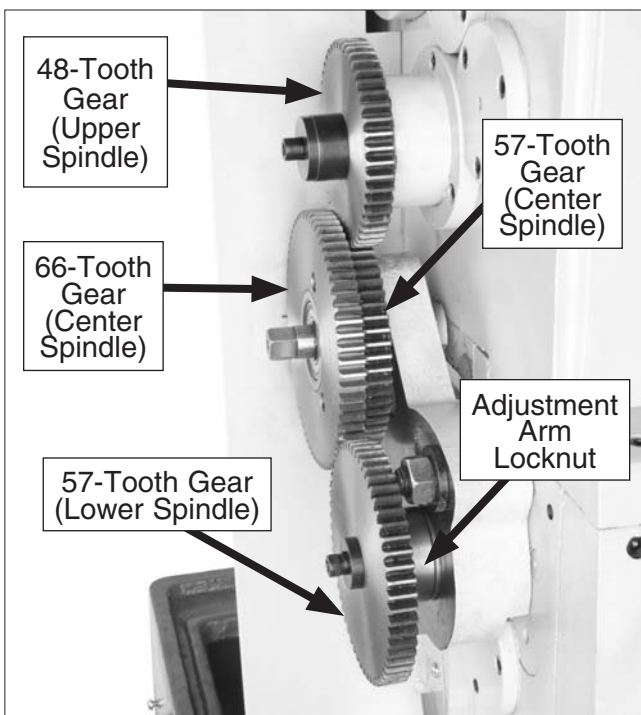

Figure 63. Change gear setup for dimetrial and modular thread cutting.
Note: When finished, and installed back on the lathe, the spindle must hold the 66-tooth gear outward as shown in (**Figure 63**).
2. Open the side cover and familiarize yourself with the orientation of the change gears (**Figure 63**).
3. Put on your safety glasses, and using a 14mm wrench, remove the center spindle and gear assembly (**Figure 63**).
9. Use the 6mm hex wrench and remove the lower spindle cap screw, shoulder washer, and the 42-tooth gear (**Figure 63**).
11. Using the 6mm hex wrench, remove the upper spindle cap screw, spacer washer, the 48-tooth gear, and the spacer (**Figure 63**).